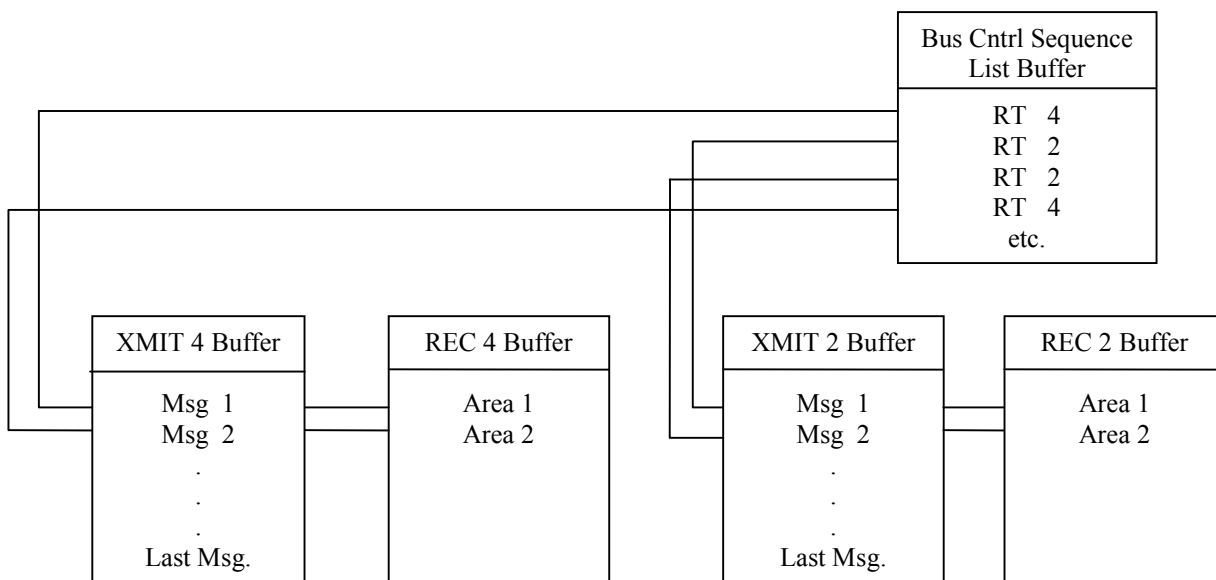

Figure 455-3: Bus Controller Simulator Example
Figure 455-3 is a simplified memory map to aid in understanding how the various buffers are set up and interact.
In the Bus Controller Simulator mode, the typical sequence of events that will take place when a T command is received by the WA73A-455 module is as follows (refer to Figure 455-3):
- 2) After the transaction for buffer 4 is completed, the WA73A-455 Module takes the next item in the Bus Controller Sequence List. In the example in Figure 455-3, this would be in buffer 2. The sequence of events described in step 1 is repeated, and message 1 in transmit buffer 2's transmit buffer is transmitted.
NOTE: Although Figure 455-3 refers to "Area 1" and "Area 2" for the receive buffers, you only need to allocate a total size for each receive buffer. The card will sequentially load consecutive RT responses. That is, message 2 is loaded immediately following message 1, followed by message 3. etc.